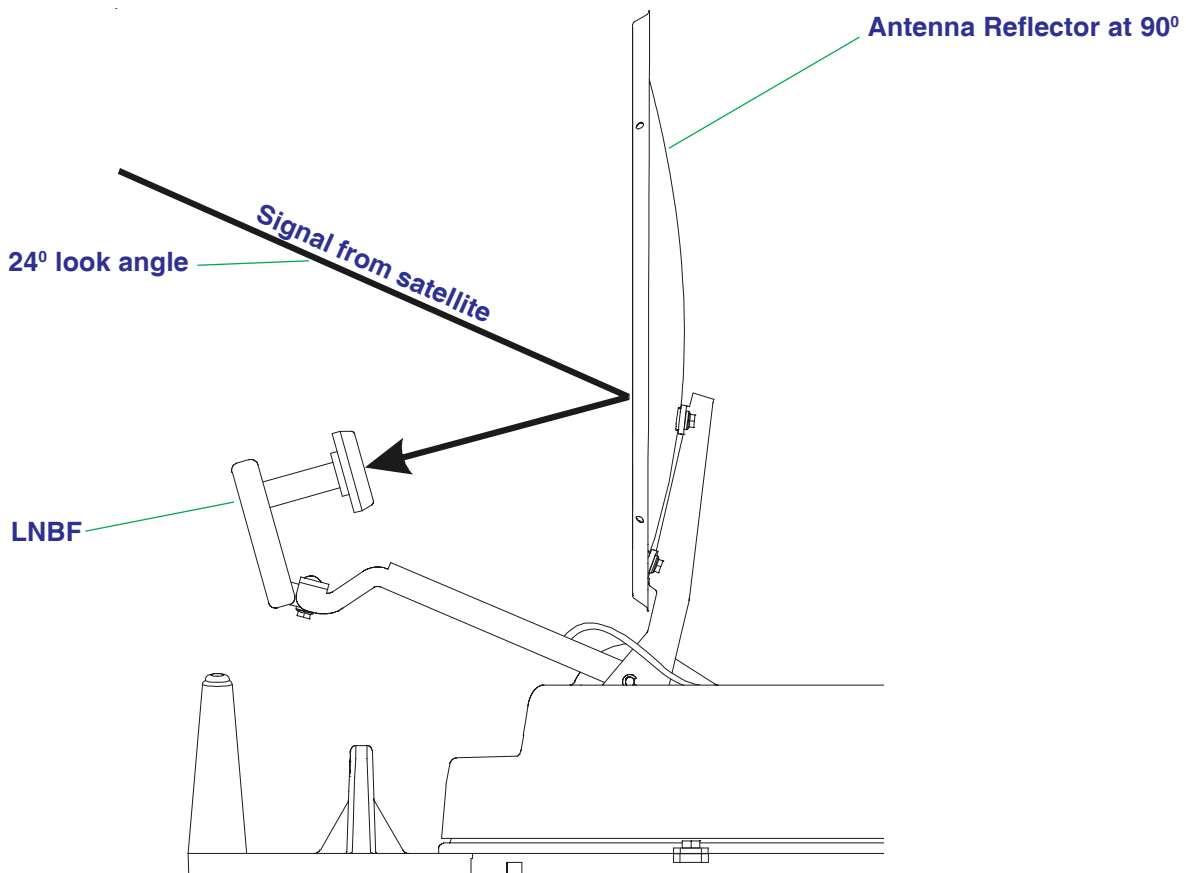

Figure 1
5. Check that there is no obstructions blocking the view of the satellites. The signal from the satellite(s) **WILL NOT** pass through trees, buildings, mountains etc. Remember that the antenna has a 24° offset, this means that when the antenna is straight up and down (90°) it is looking 24° into the sky. See Figure 1.